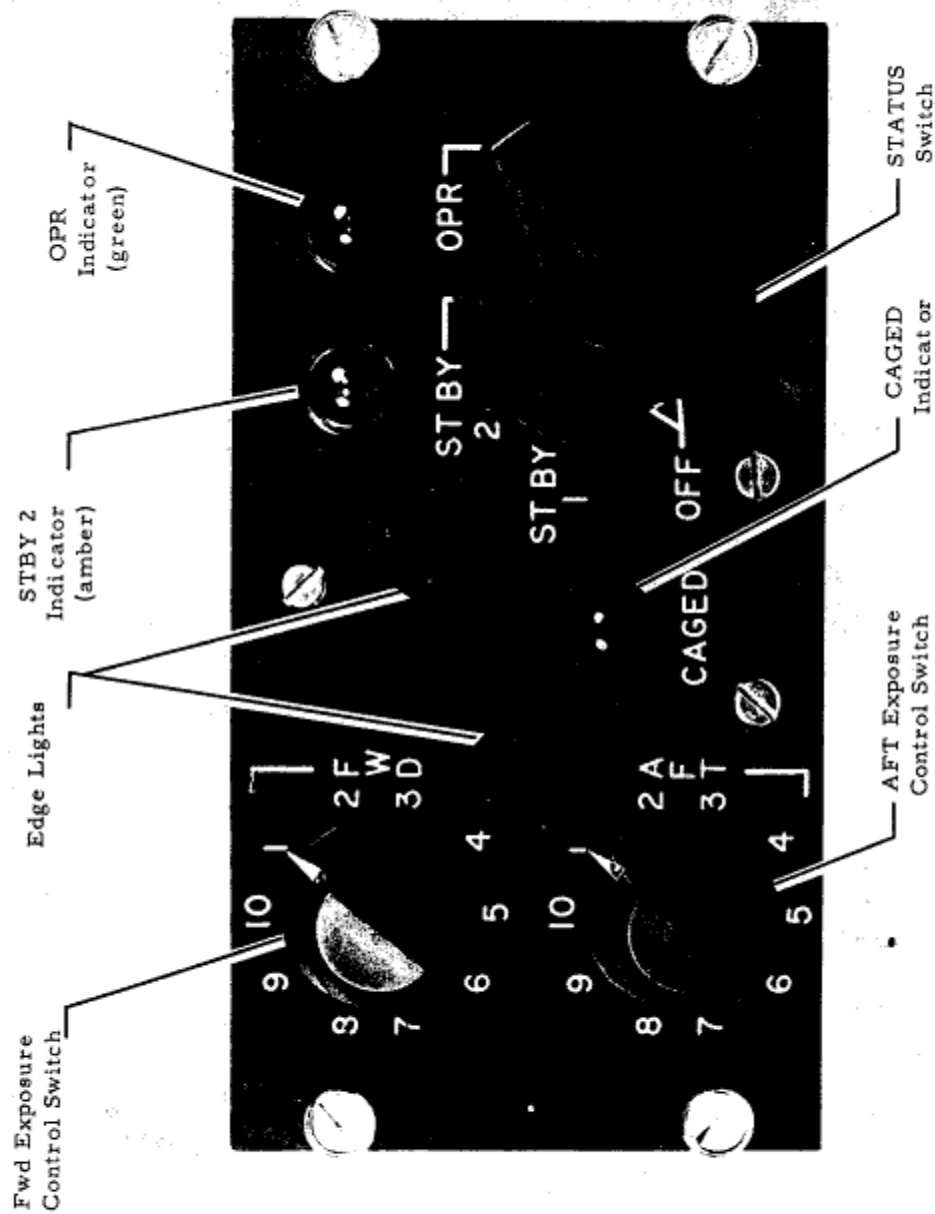

Figure 1-6. Type I Control Panel
- 1-9. The control panel for the Type I package is shown in Figure 1-6. The control panel is located on the left cockpit console, and occupies an area approximately 6 inches by 3 inches.
- 1-10. The large STATUS selector switch, Figure 1-6, controls the operation of the package. The smaller V/H option selector switch controls the V/H input for camera functions. The TIMER - OFF toggle switch controls the data recording on the film and the automatic exposure control programmer. Three indicators are: CAGED (red), STBY 2 (amber), and OPR (green). Control panel switches and indicators are listed in Table I. Package failure is indicated by a Q-BAY EQUIPMENT OUT indicator (red) located on the warning light panel, center console.